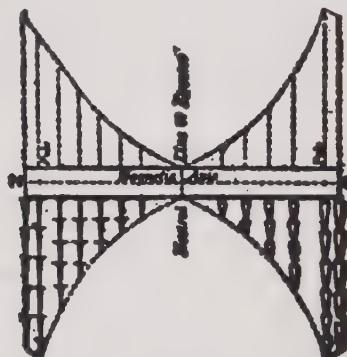

Fig. 78. Strength of Magnetism as roughly Tested by Lifting Power.
**Answer.** Fig. 78 shows approximately the magnetic force at different points. It shows that the pole of a magnet is not at the tip end, but a little way back.